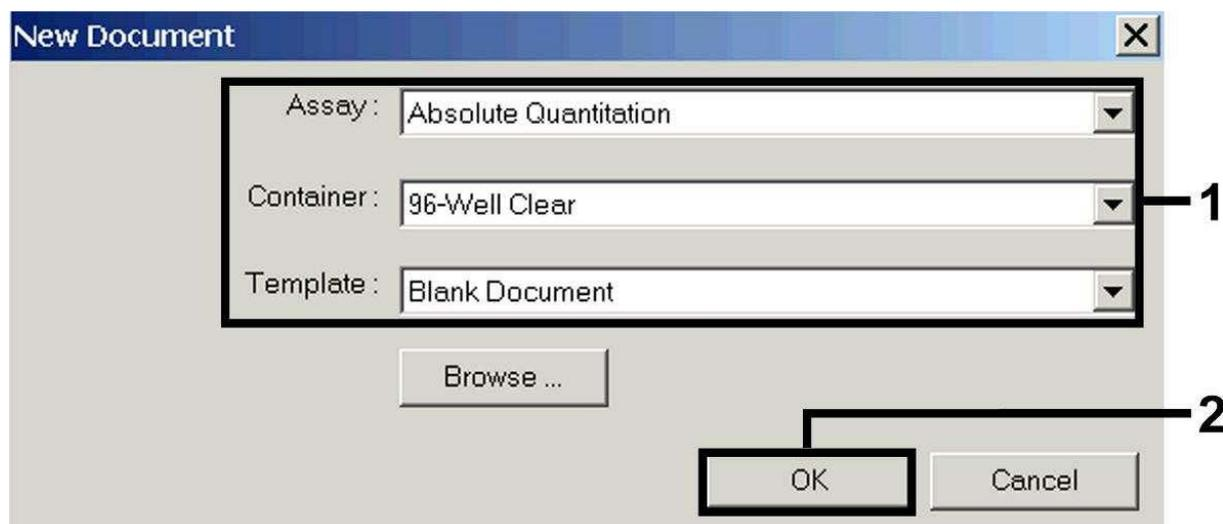

Fig. 3: Pre-settings for creating a new PCR run (*New Document*).
Select the item *New* from the *File* menu on the *ABI PRISM 7000 SDS* and programme the following initial settings for the new document (see Fig. 3). A backup template (*SDS Template* [**.sdt*]) is available from the *Template* list or by selection using the *Browse* function (see 8.5.1.5 Saving the PCR Run). Confirm your pre-settings (OK).